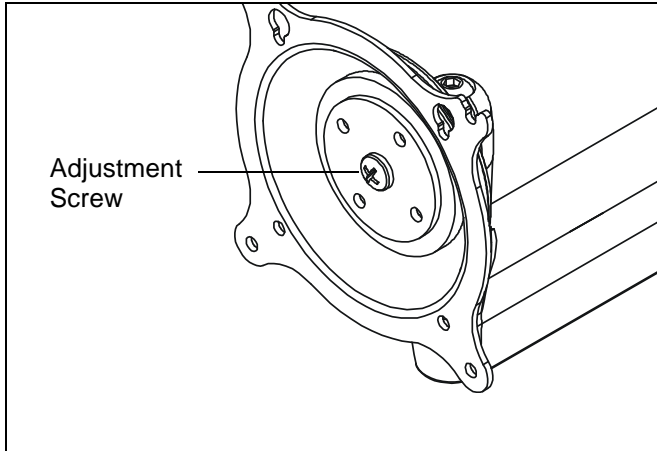

Figure 9
2. Using Phillips screwdriver, slightly loosen or tighten the adjustment screw as necessary. (See Figure 9)